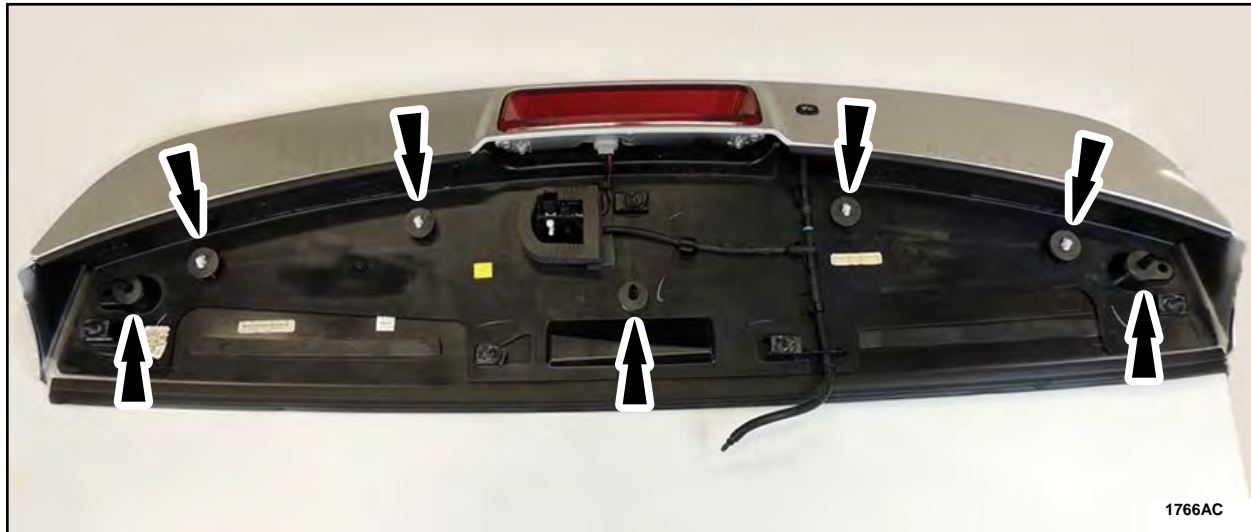

FIGURE 15
7. Install four *new* retention clips and three locating pin seals. See Figure 15.